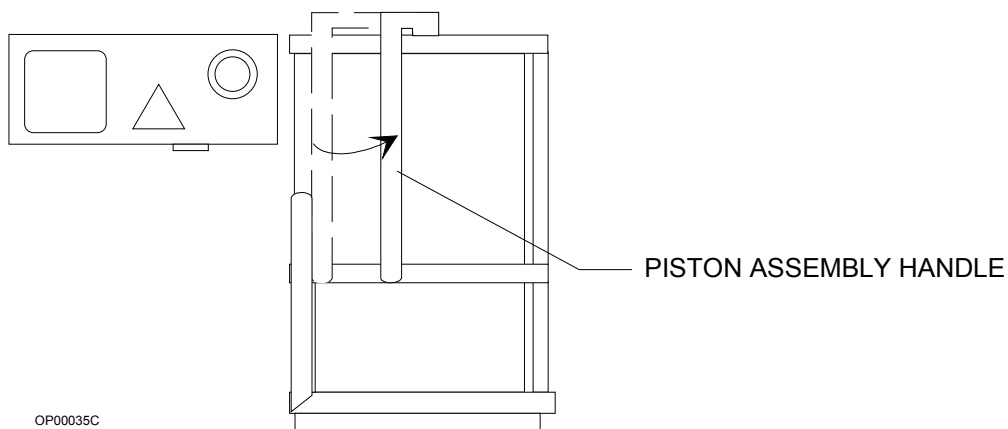

Figure 10-2. Location of Piston Assembly Handle
5. Raise the piston assembly handle to its up position and lift the assembly out. See Figure 10-2.